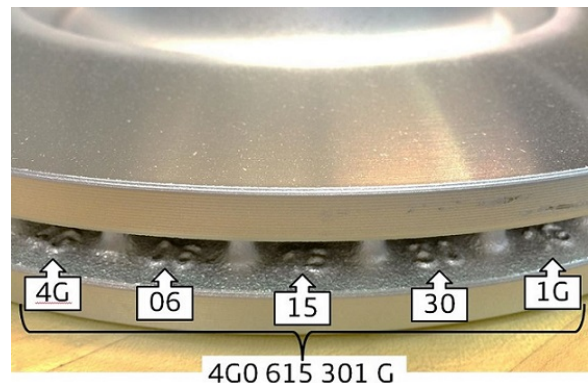

Figure 3. Front brake disc part number location.
1. Check the part number on the front discs. If part number is *not* 4G0615301G, install 4G0615301G front discs (Figure 3).